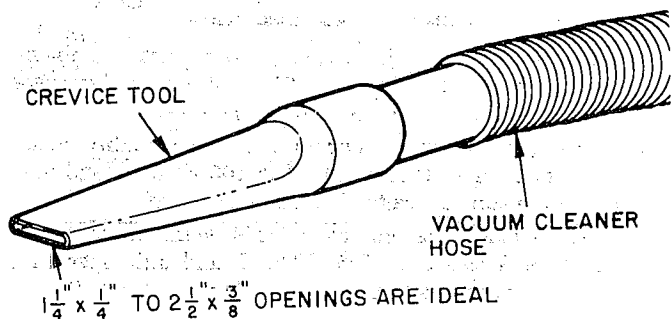

Fig. 32—Crevice Tool
2. Clean coil and heat sink using vacuum cleaner and coil crevice tool (see Fig. 32). Work crevice tool *vertically* making sure tool only touches dirt on coil fins. To prevent fin damage, do not "scrub" fins with tool or move tool horizontally.